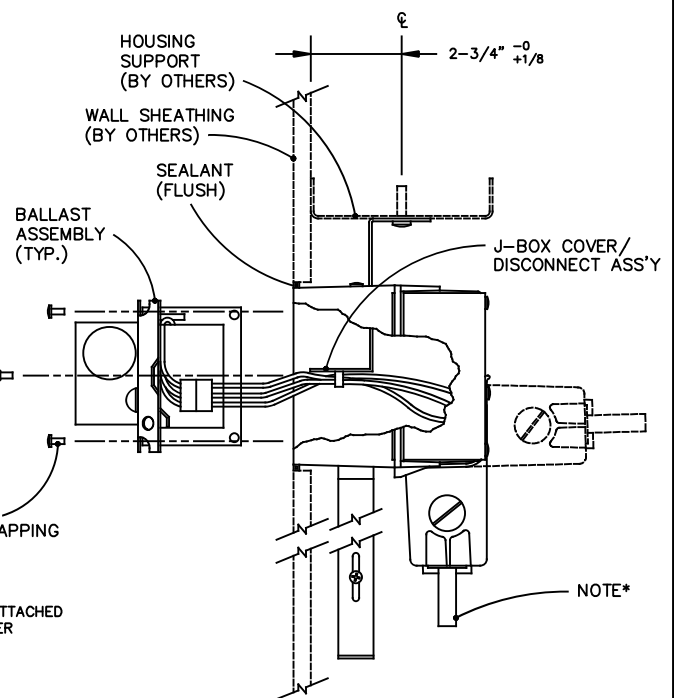

FIG. 2
4. The j-box was positioned at the factory for most stud wall installations. If necessary, prior to installation, reposition j-box per fig. 2 to custom fit requirements.
8. Hang housing assembly on support screws per fig. 2, positioning front of housing flush with outside finish surface of wall sheathing, (drywall, wood, etc.). Use small scrap piece of actual sheathing as a guide. (Sheathing to be installed later by others.)
13. Seal gap between outer edge of housing and sheathing with silicone RTV or equivalent. See fig. 2.
6. Attach ballast assembly into housing per fig. 2 using (4) self tapping screws provided in the housing. Insure wiring does not interfere with ballasts when tray is installed.
8. Install face plate with mounting screws per fig. 2. Be sure mounting screws are snug, but do not over tighten. When installing the open face plate, take note of the arrow on the back indicating orientation.